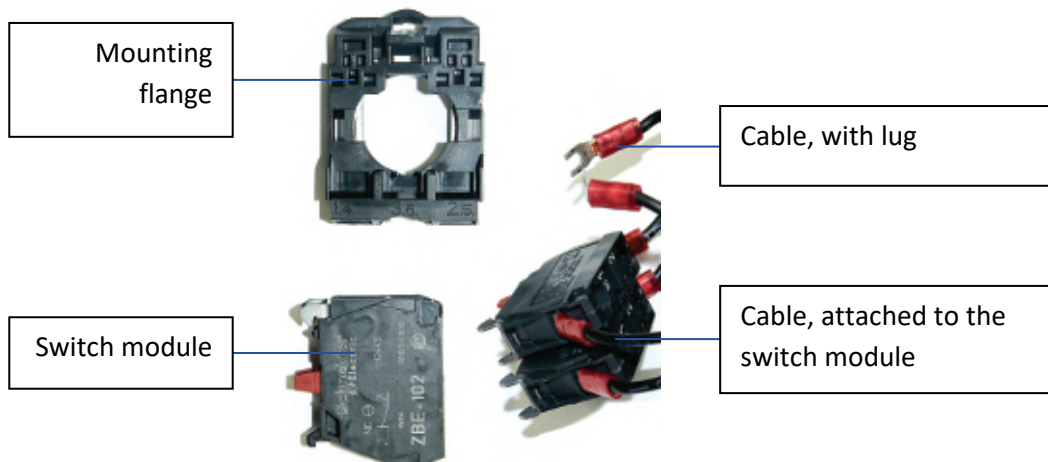

Fig. 45: Switch module, cable, and mounting flange
3. The cables are fitted with fork type cable lugs which are fastened with screws to the switch modules (two cables per switch). Loosen the screws and pull the cables and the lugs out of the switch module. The individual modules can now be replaced (see Fig. 45).